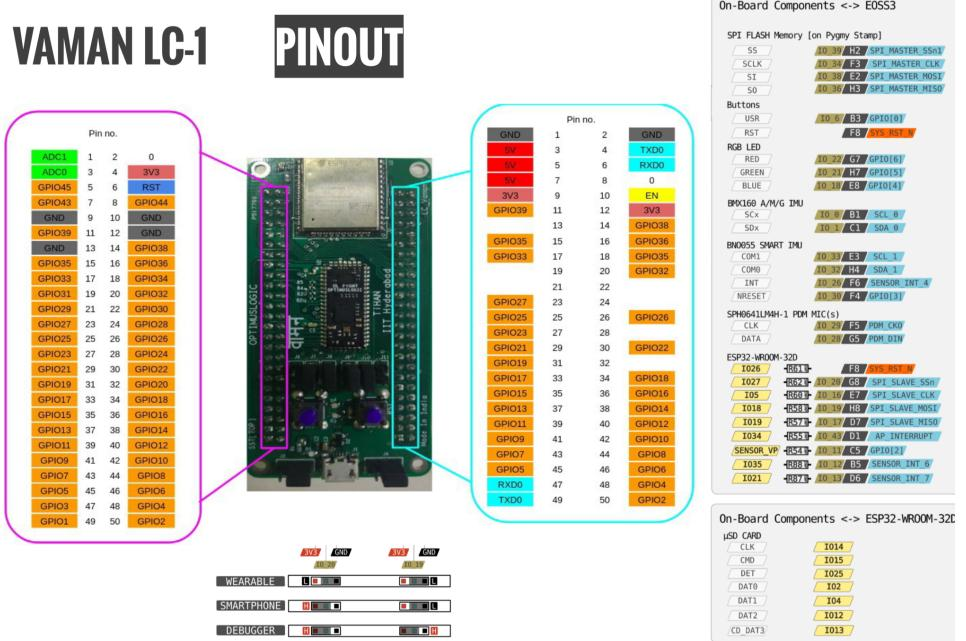

Fig. 9.1: Vaman pins. Right side represents ESP32 and left side M4-FPGA (Pygmy).
3. The Vaman pin diagram is available in Figure 9.1.